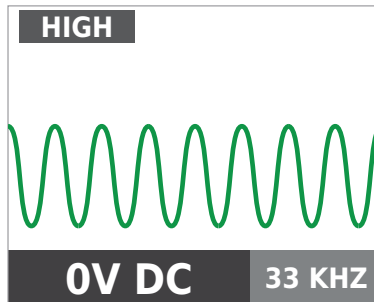

Figure 3.3b
3. Select HIGH signal mode for most applications. Screen will appear as shown in Figure 3.3b